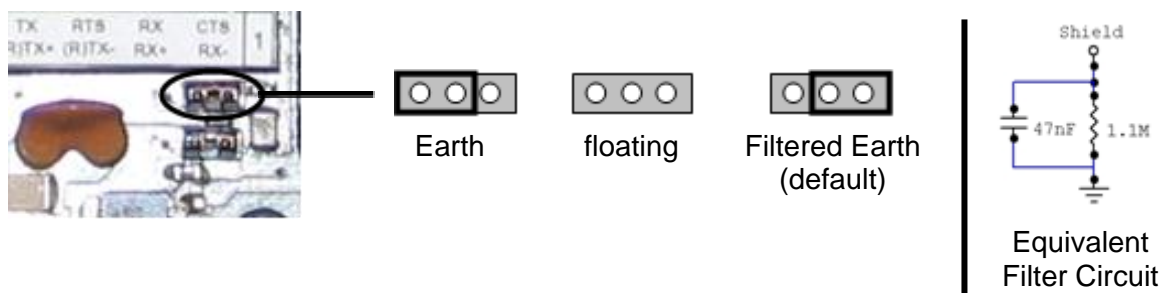

Figure 7– Shield to Protection Earth Jumper Settings
- Connect the Network Cable Shield (Shield) to Filtered Earth through the jumper (default setting, see Figure 7).